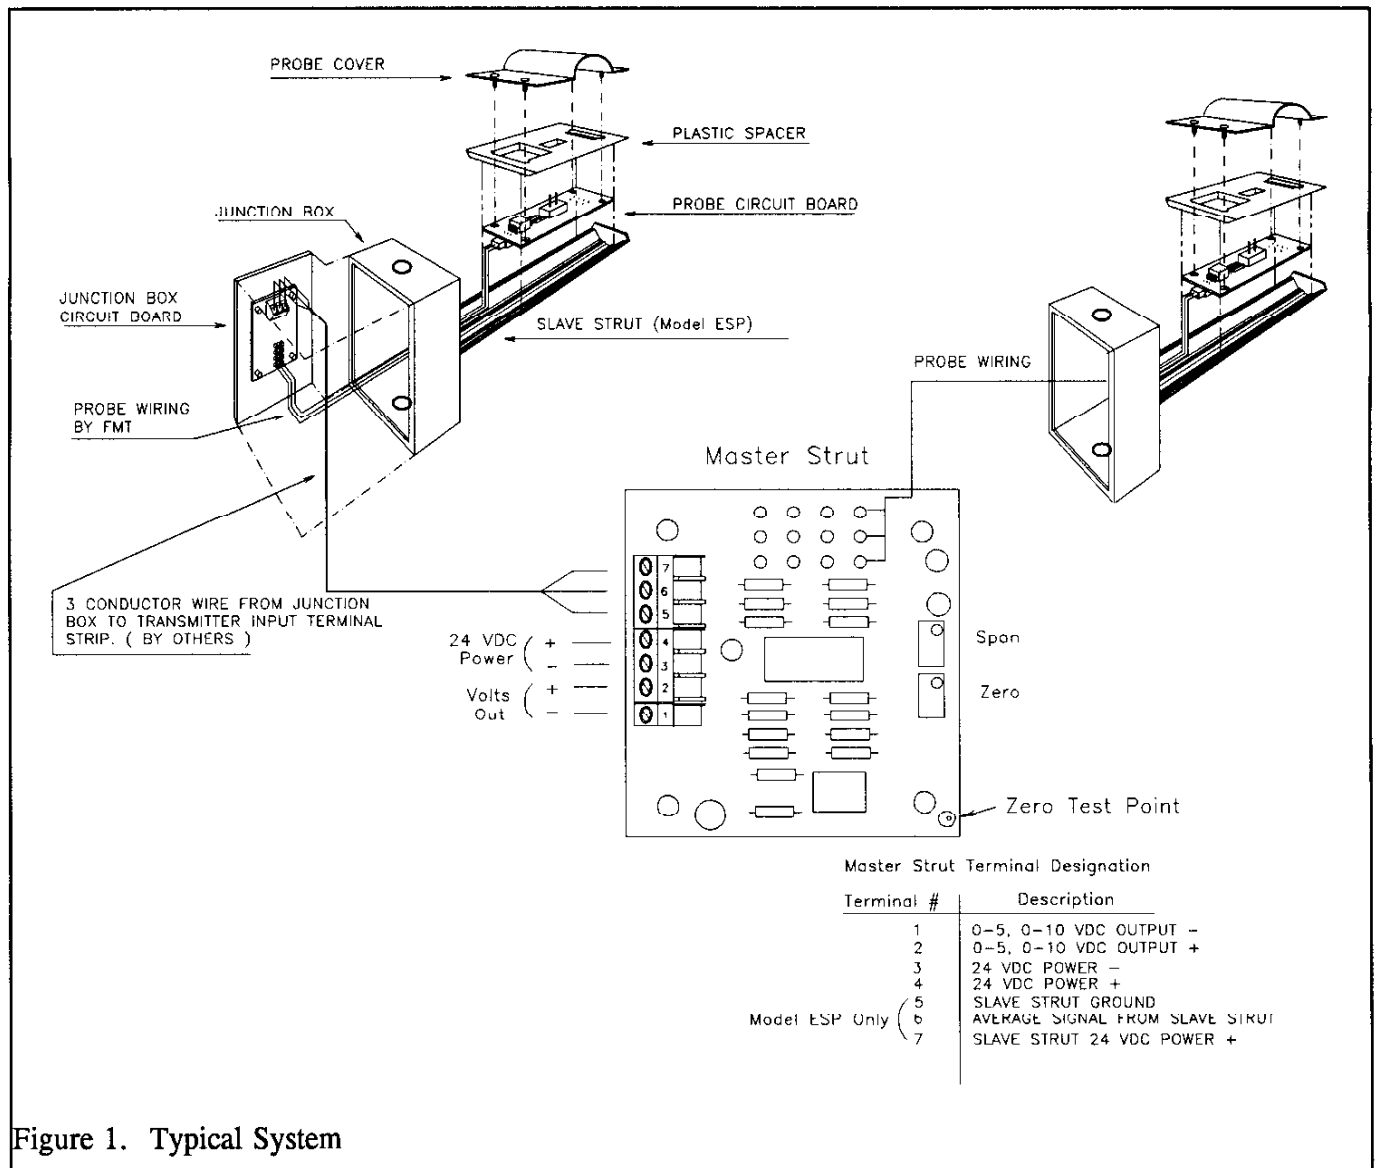

Figure 1. Typical System
Each flow station consists of one or two duct air flow probe assemblies. The Model SP is a single strut unit with the output transmitter mounted in the enclosure at the end of the strut. The Model ESP consists of two struts labeled " MASTER " and " SLAVE ". The master strut contains the output transmitter for both struts. Both power input wiring and signal output wiring is done at the master strut transmitter. The slave strut is wired to the master through a 3 conductor wire supplied by the installing contractor. The voltage output provided by the Model SP/ESP flow station is nonlinear. An equation is provided with each unit for converting the output signal into a FPM or CFM value. See Figure 1 for a system description.
3. Using the adjustment trimmer labeled SPAN shown in figure 1, adjust the span of the unit up or down to change the output to the desired output signal. Clockwise increases the span and counter-clockwise reduces it. There is a time delay built into the output circuitry so make span changes slowly to avoid overshooting the target value.